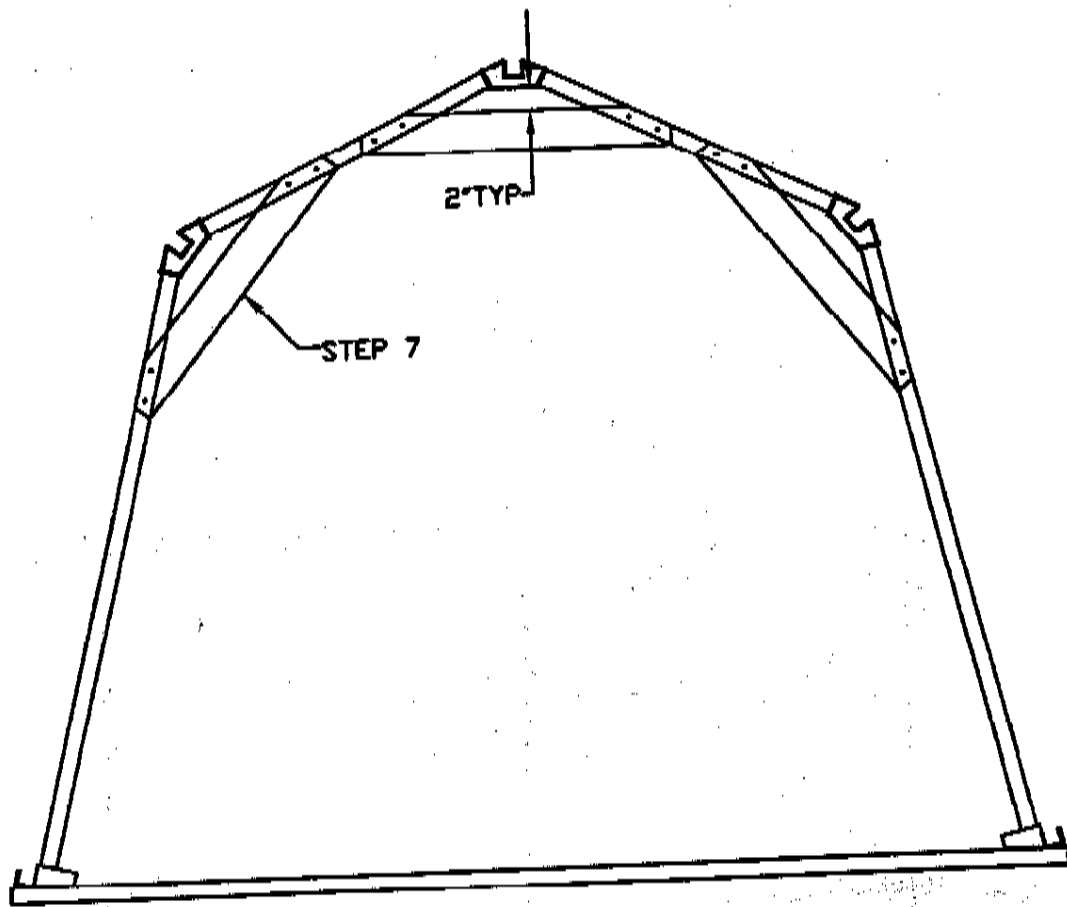

FIG 1-3
7. While arches are lying flat on the ground, trim and secure roof board bracing using 1 1/2" screws. Fig. 1-3